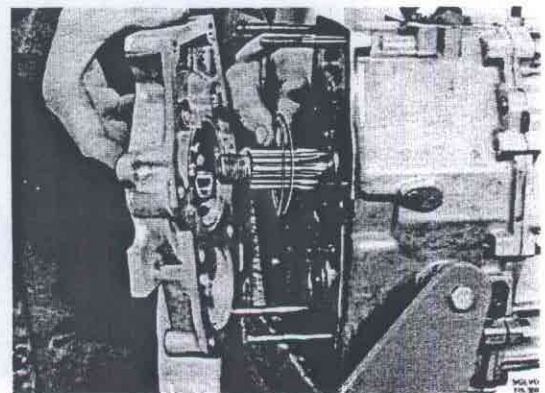

Fig. 43-53. Removing rear cover and shim
12. Remove the cover, shims and packing, Fig. 43-53.